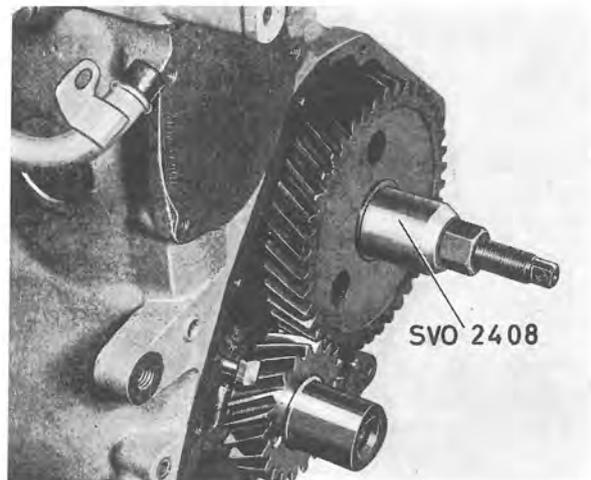
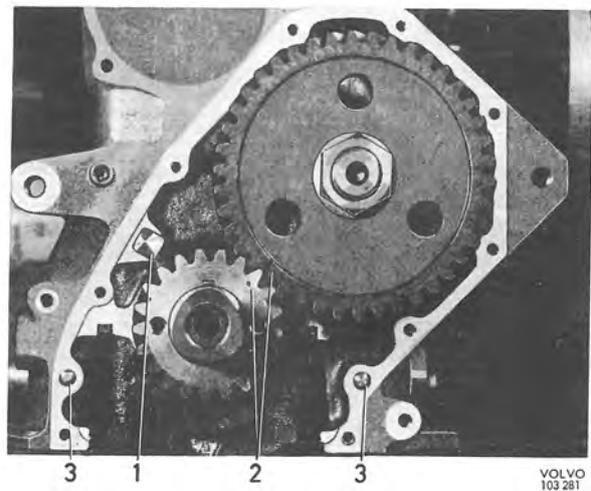

Fig. 2-37. Fitting camshaft gear
Fig. 2-38. Markings on timing gears
Screw out the oil nozzle, blow it clean and re-fit it, see Fig. 2-38. The gears are lubricated from this nozzle.
7. Re-fit the camshaft gear with tool SVO 2408, see Fig. 2-37. Both gear wheels should take up the correct position relative to each other, see Fig. 2-38. When the timing gear drive markings are opposite each other, then the piston for No. 6 cylinder is at top dead center, firing position. Do not press the camshaft backwards so that the sealing washer at the rear end loosens. Fit the nut and tighten it to a torque of 13—15 kgm (94—108 lb.ft.).